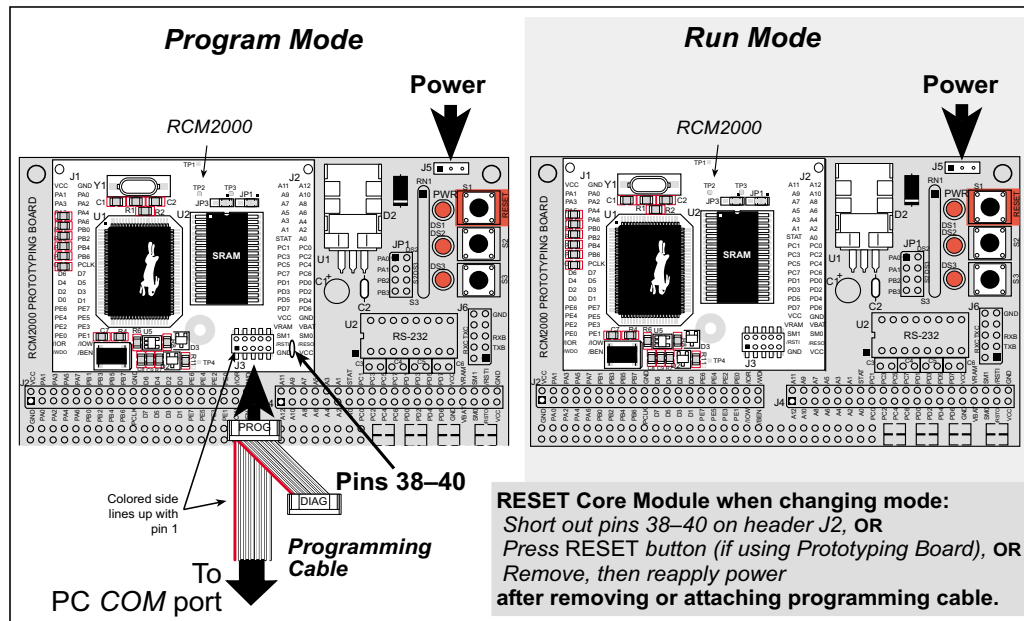
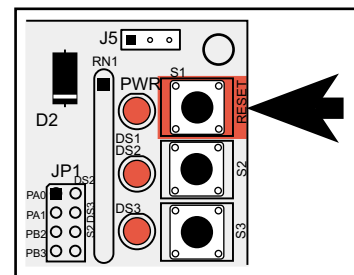

Figure 4. RCM2000 Program Mode and Run Mode Setup
Figure 5. Location of Prototyping Board Reset Button
2. Reset the RCM2000. You may do this as explained in Figure 4. Figure 5 shows the location of the RESET button on the Prototyping Board.